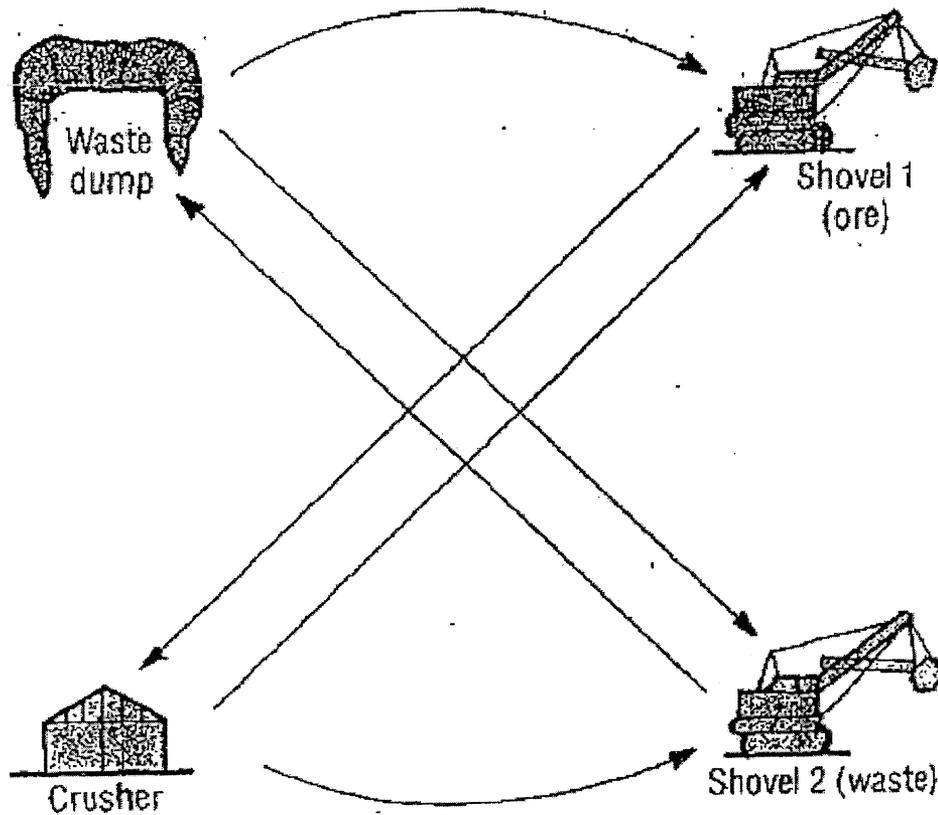

Figure 4 All Possible Truck Routings
4.3 What are the theoretical numbers of trucks required for “closed out” and “dispatched” operation shown in Figure 4 to obtain maximum production. (7 marks)